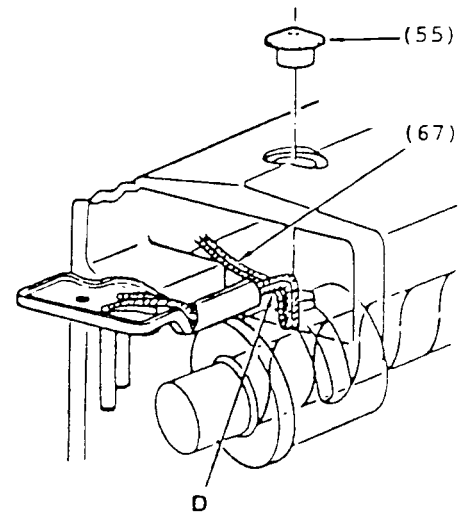

Fig. 32
2. Insert two oil wick leaders into hole in arm casting, as shown in Fig. 32 so that wick is slack over edge of oil wick holder at point D. This will insure free passage of oil. Use a screwdriver through arm plug screw hole (55) and push the two oil wick leaders down into slot in arm shaft bushing so that the wicks are in contact with the oil wick leaders for thread take-up lever link hinge stud already in the slot.